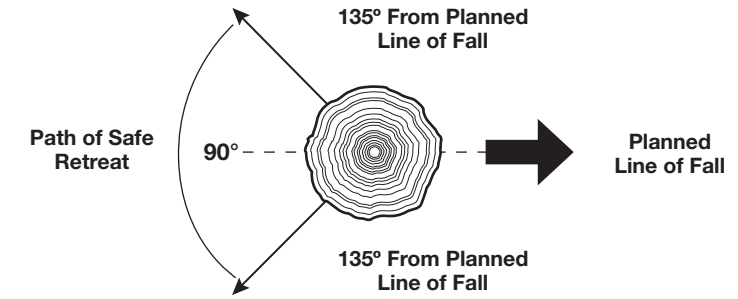

Fig. 10
- Determine a safe and expedient escape route. Clear the area around the tree and make sure there are no obstructions blocking the escape route. Establish a 90° corridor of escape, approximately 135° from the line of fall (Fig. 10).